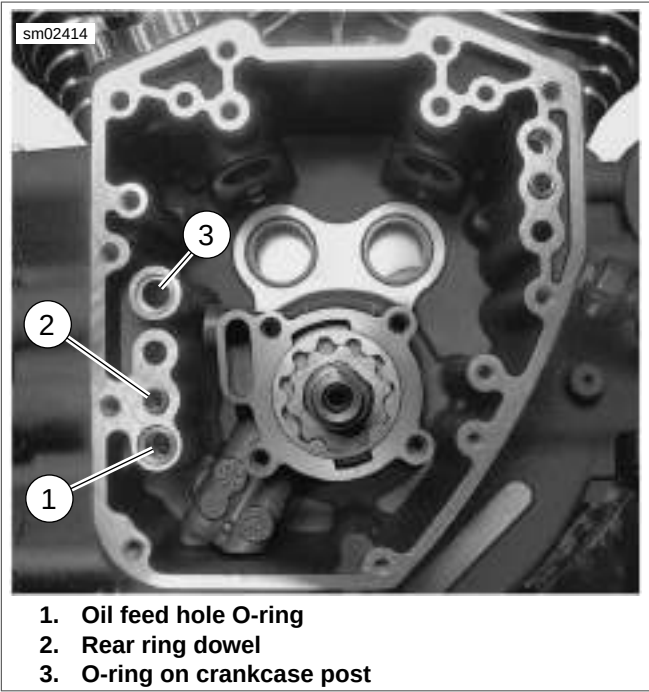

Figure 3-59. Oil Feed Hole
- d. Fit the smaller of the wide gerotor gears into the larger. Slide the wide gerotor set (4) down the crankshaft until it bottoms in the oil pump housing.
- e. Slide inside separator plate (2) down the crankshaft until it contacts the wide gerotor set (4). Install wave washer (3) and outside separator plate (2).
- f. Fit the smaller of the narrow gerotor gears into the larger. Slide the narrow gerotor set (1) down the crankshaft until it contacts the outside separator plate (2).
- g. See Figure 3-59. Apply a very thin film of clean H-D 20W50 engine oil to **new** o-ring (3) for crankcase post. Install **new** o-ring in groove on crankcase post.
- 1. See Figure 3-59. Apply a very thin film of clean H-D 20W50 engine oil to **new** o-ring (1) for crankcase flange. Install **new** o-ring in groove around oil feed hole directly below rear ring dowel (2).